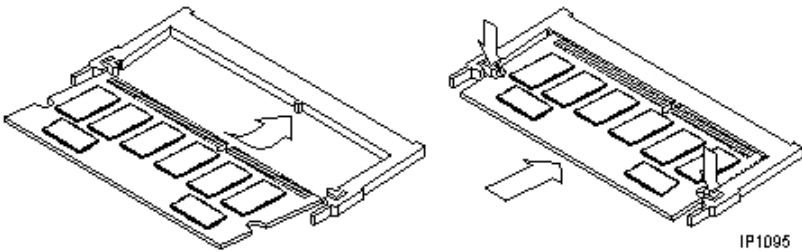

Figure 94: Memory Module Installation
- holding the module at approximately a 30-degree angle to the board, insert the bottom edge of the module into the slot's connector (see Figure 94).